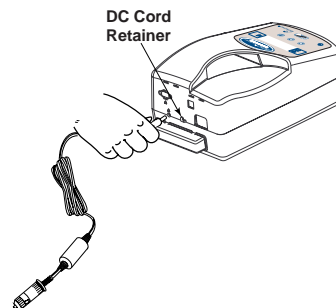

Figure 4-8 Plugging in the DC
STEP 1 Plug the receptacle end of the DC cord into the DC inlet of the Synchrony as shown in Figure 4-8.